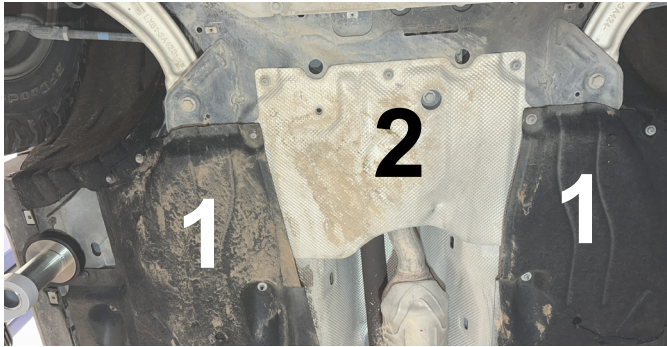

Fig. 1
1. Remove driver and passenger side factory felt covers (1). If you have factory metal cover (2), remove it as well (Fig. 1)